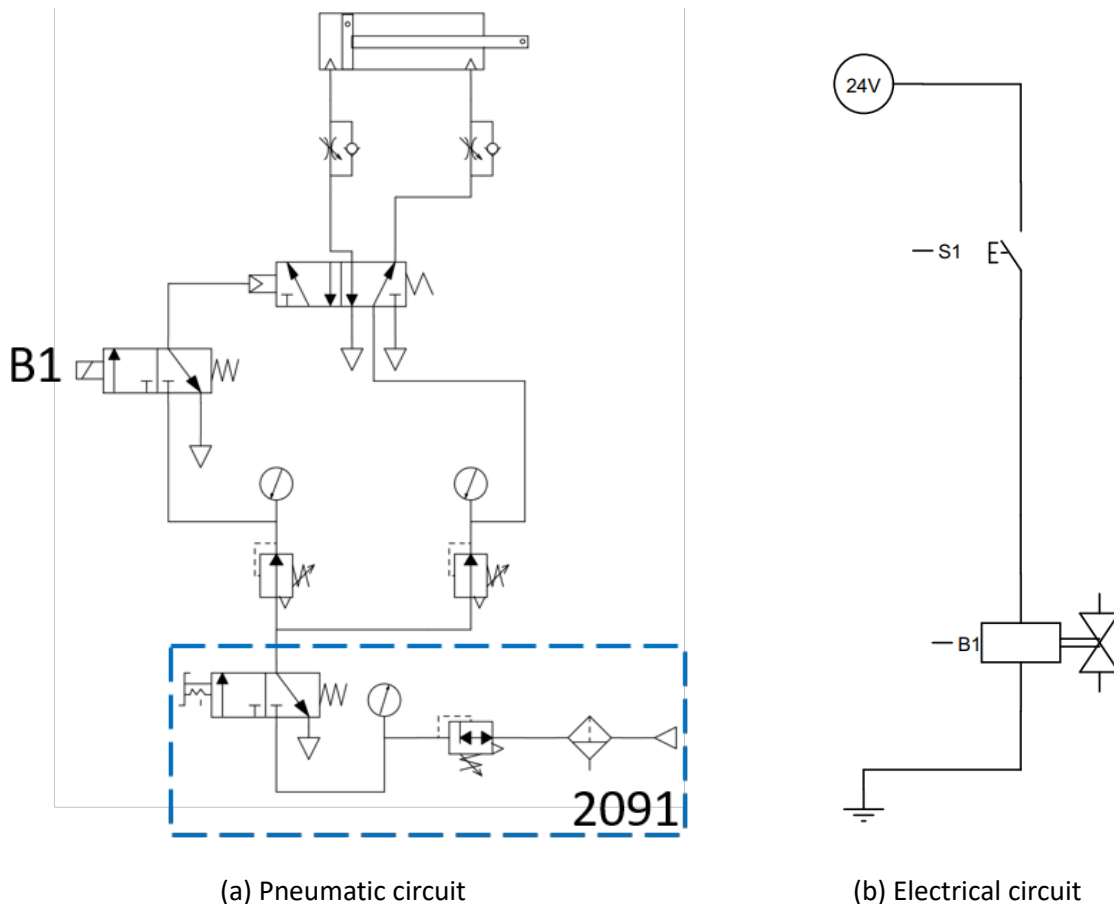
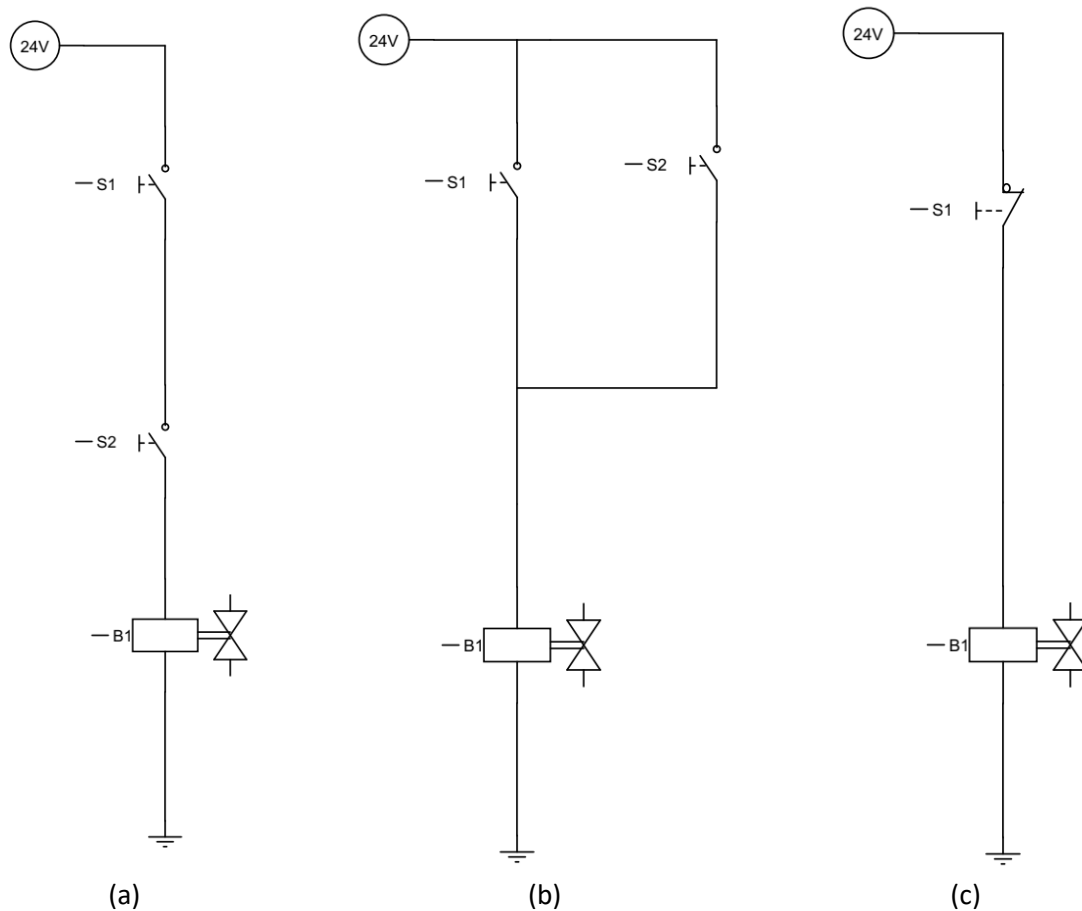

Figure 2.1: Circuit drawing of pneumatic and electrical circuits for
Figure 3.1: Electrical Circuits for Task 3
1. Connect the pneumatic circuit and electric circuit as shown in **Figure 2.1(a)** and **(b)**. Use directional valve 5/2 way (2023) and directional valve 3/2 way (2050 or 2052).
By using the previous pneumatic circuit as shown in **Figure 2.1 (a)**, try out different electrical circuits as shown in **Figure 3.1(a)** to **Figure 3.1(c)**.
For each scenario (**Figure 3.1(a)** to **Figure 3.1(c)**), you are required to: